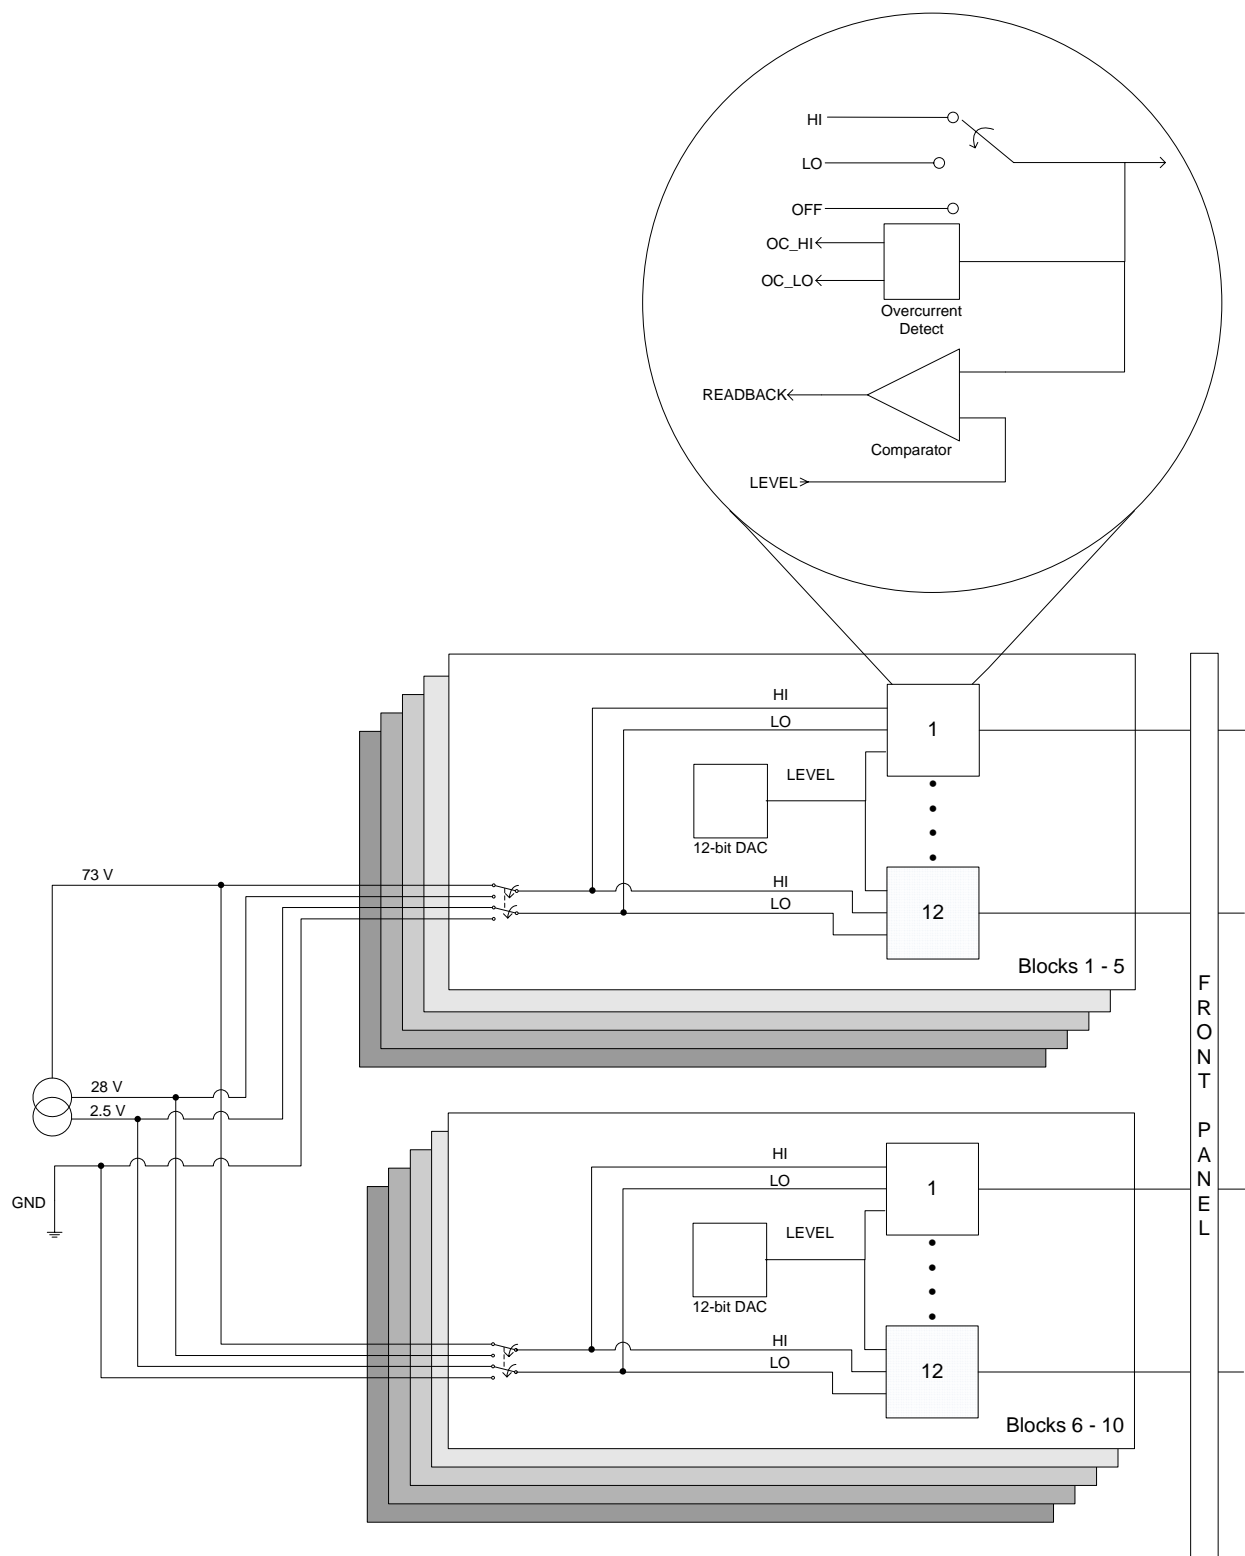

FIGURE 2-2: VT1802 BLOCK DIAGRAM
Each section is further divided into five 12 channel banks (see Figure 2-2). Each bank of 12 channels is set to either 73 V (HI) and 2.5 V (LO) or 28 V (HI) and GND (LO). Each individual channel can be set to either HI, LO, or OFF. If a user, for example, sets bank 2 to 73 V, then channels 13 – 24 can be either 73 V, 2.5 V, or off. Similarly, if the user sets bank 6 to 28 V, then channels 61 – 72 can be either 28 V, GND, or off. Each channel is capable of sourcing/sinking up to 140 mA at 28 V. The maximum for the 73 V line is 1 mA. It is imperative to keep this in mind when operating the VT1802. Should an over-current condition ($I > 140 \text{ mA}$) occur, the channel is shut off and an over-current event is registered for that channel. By accessing the ENABLE and LEVEL registers via the soft front panel, a channel can be set to ON/OFF or HI/LO, respectively. Each channel is additionally capable of Output Enable, Output Selection, and Output Level Readback.